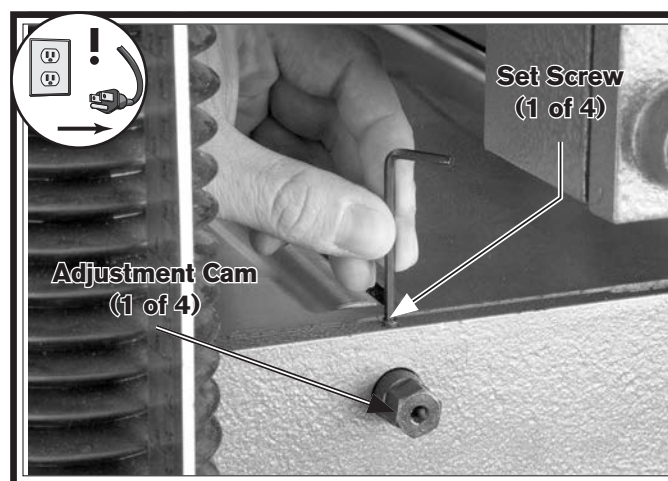

Figure 28. Location of bed roller height controls (two on each side of planer table).
3. Loosen set screw above each of four roller adjustment cams—there are two on each side of planer table (see **Figure 28**).